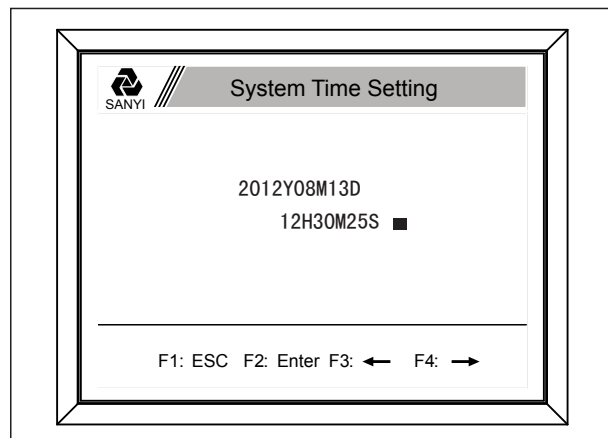

Fig 3-3.5
c. When the cursor to the last digit (the second single digits) , click F2 key to confirm the current changes, and then click F2 key again to end the modify Settings until appear a square green claim(see fig3-3.5),